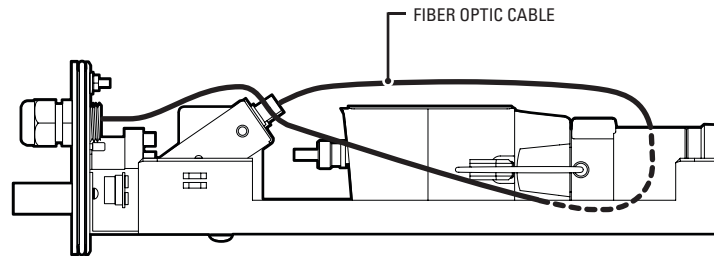

Figure 7. Routing Fiber Optic Cable in EH2515 Enclosure
- i. Route the cable above the transmitter and then along one side of the camera until you can loop the cable underneath the lens; then route the cable back along the other side of the camera toward the fiber optic connector on the transmitter (refer to Figure 7).